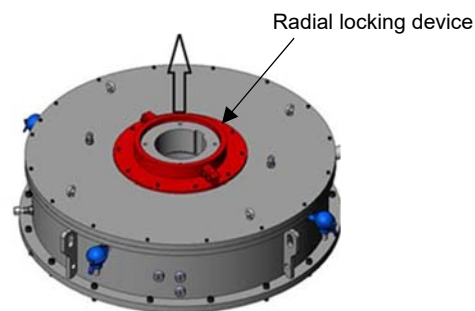

Figure 4.2: Radial locking device
3. Remove the locking device as shown in Figure 4.2;